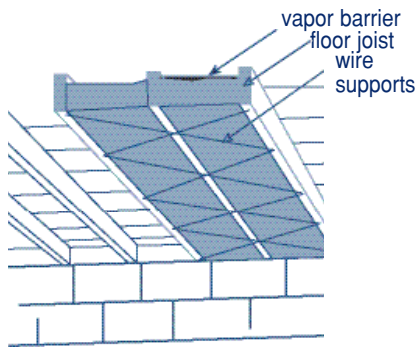

Figure 17: Make sure that the insulation is in contact with the floor above and secured with wire mesh, wire-spring clip or some other material.
**Step 1:** Purchase R-19 batt or blanket insulation with an attached vapor barrier. Buy the width that best fits the floor-joist spacing and look for insulation labeled “friction fit.” This means the product is slightly wider, a feature that makes installation easier. To secure the insulation in place, use a wire-spring clip or wire mesh (Figure 17).